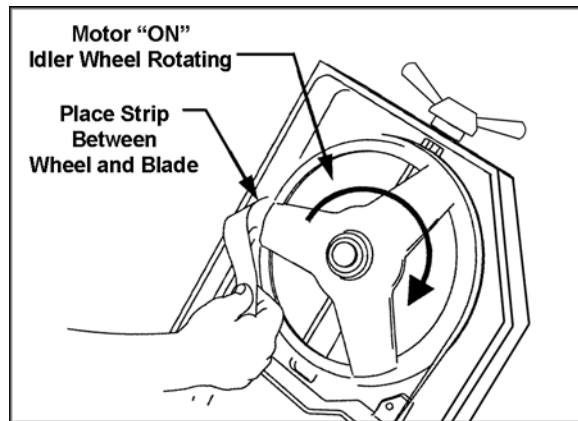

Figure 15
6. Turn the set screw to stop the shifting of the blade on the wheel as it gets closer to the wheel shoulder. Put a six-inch length of paper between the blade and the wheel. See Figure 15. The paper should not be cut as it passes between the wheel shoulder and the blade.